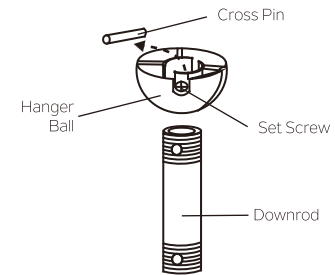

Fig. 7
Step 5. Remove the hanger ball from the downrod assembly by loosening the set screw, unscrewing and removing the cross pin and unscrewing the ball off of the rod. (Fig. 7)